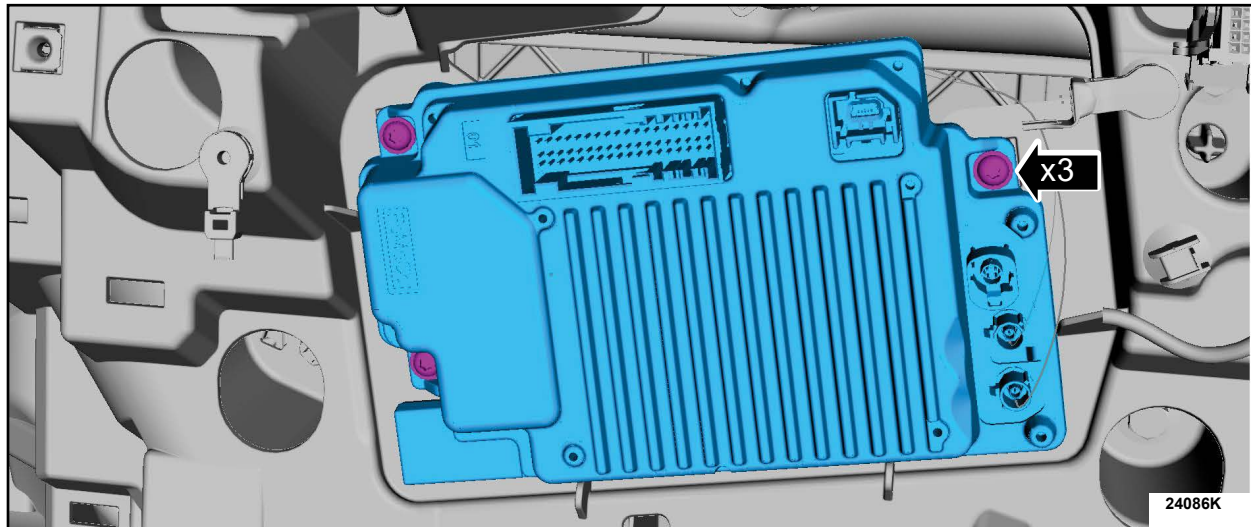

FIGURE 10
11. Position the APIM back into the vehicle and install the 3 screws. See Figure 10.